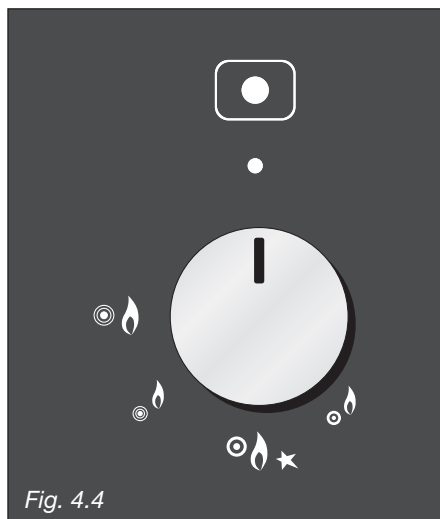

Fig. 4.4
Gas flow to the burner is adjusted by turning the knob (illustrated in fig. 4.4) which controls the valve.
- 1 – Push and turn the knob in an anti-clockwise (fig. 4.4) direction up to the  position (maximum rate of inner and outer crowns); push in and hold the knob until the flame has been lit.